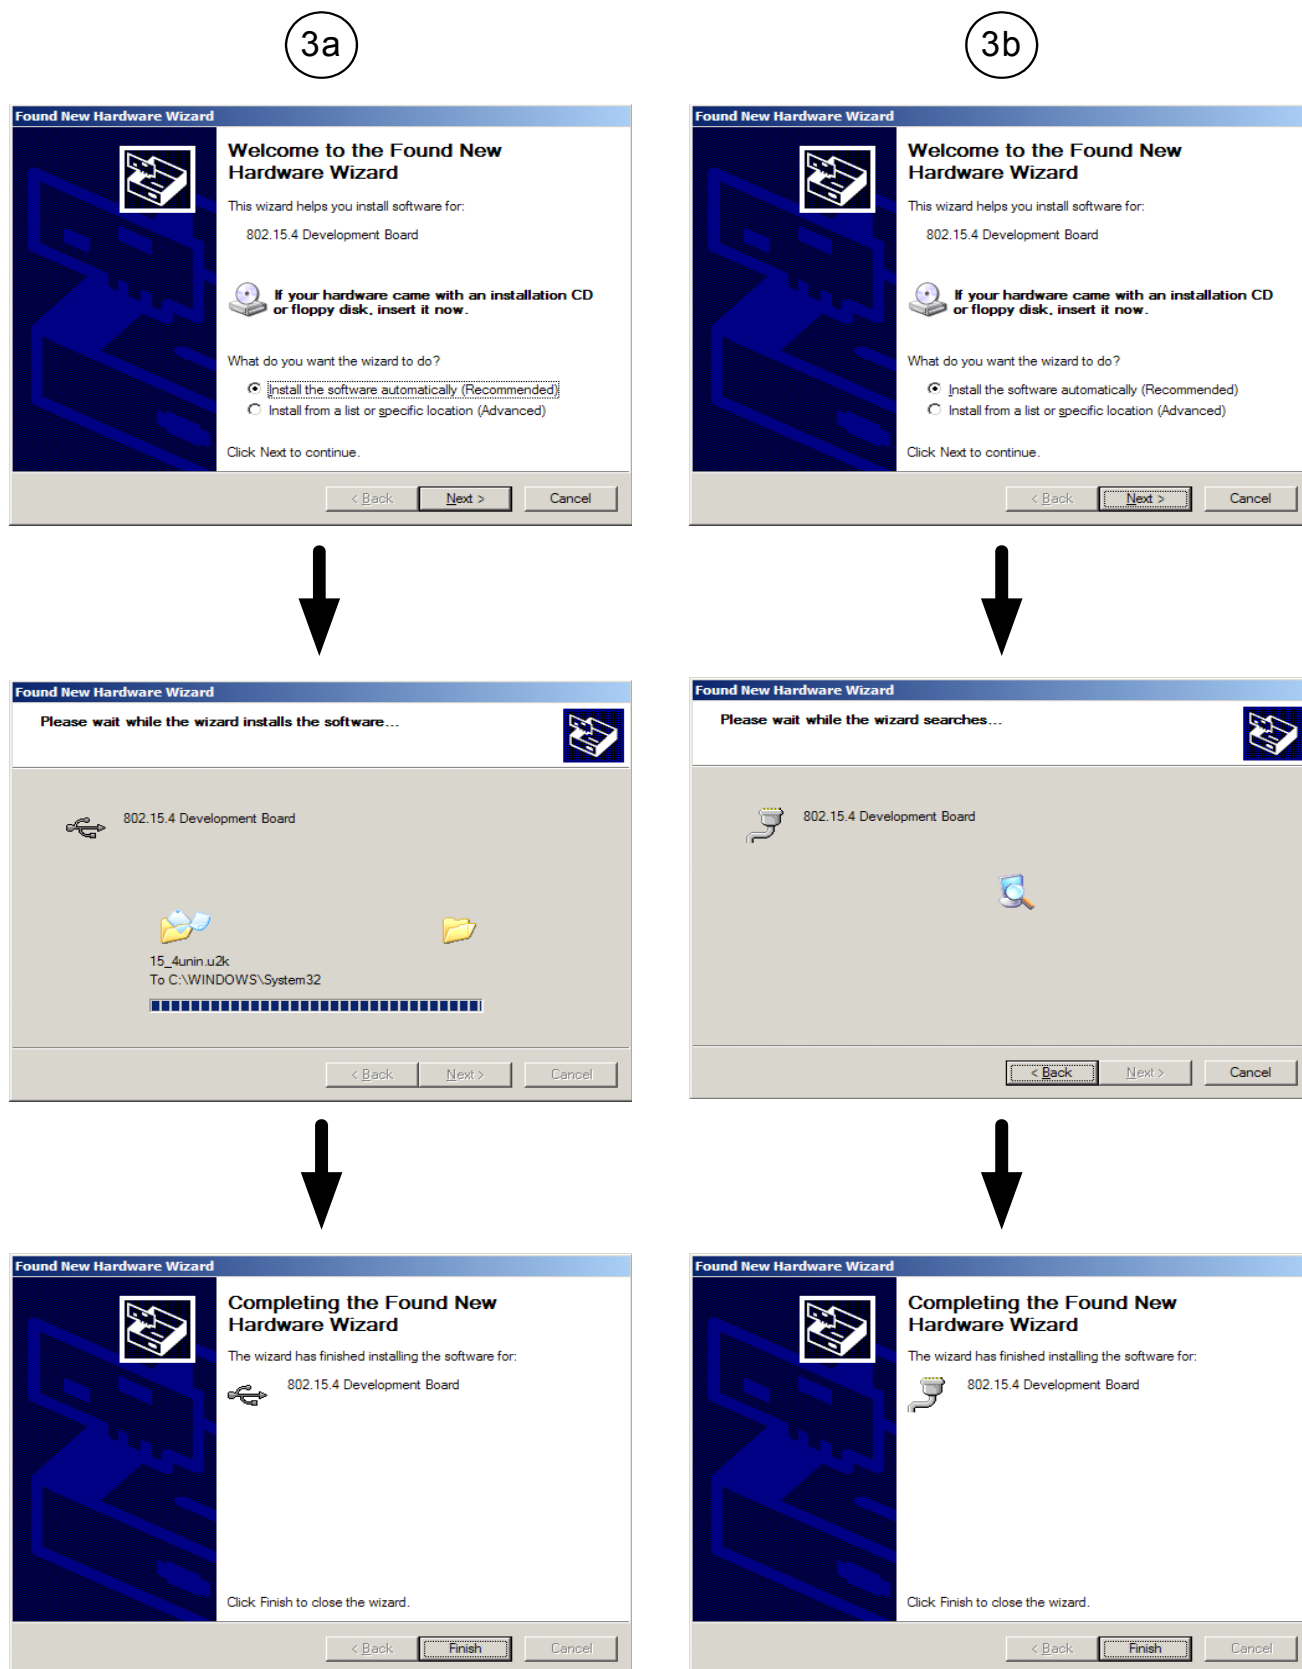

Figure 2. USB Installation
3. Install the USB drivers. The Windows "Found New Hardware Wizard" will automatically start when the board is connected. The Wizard will run twice for each new development board: first to install the USB driver and second to install a virtual COM port driver. Follow the default settings for both as shown in Figure 2.